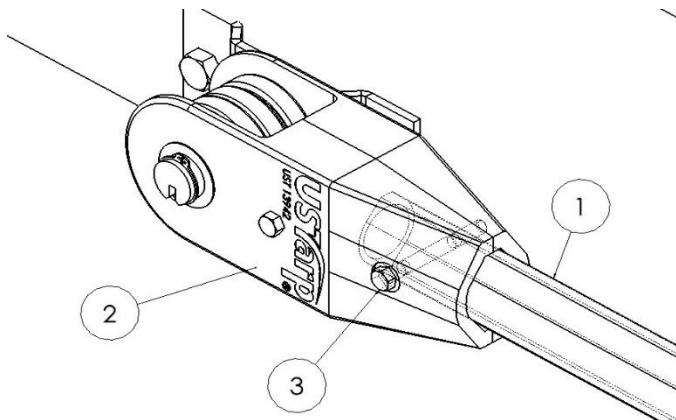

Figure 3.9
Insert the bulletproof arm (1) into the pivot casting (2) and secure it using the 5/16" x 1-1/4" hex bolt (3) and hex nut. (Figure 3.9)